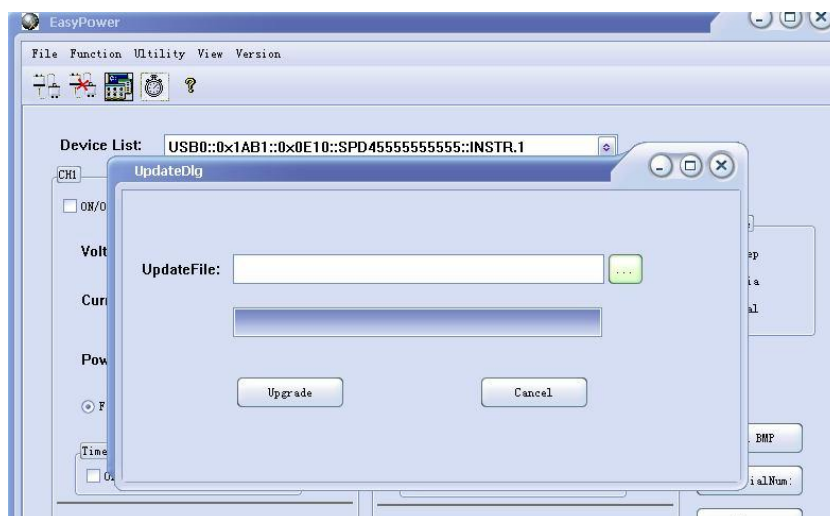

Figure 2
3. Figure 2 shows the firmware upgrade dialogue. Click file choosing icon , and then select the file to be upgraded which must have a postfix .ugf.